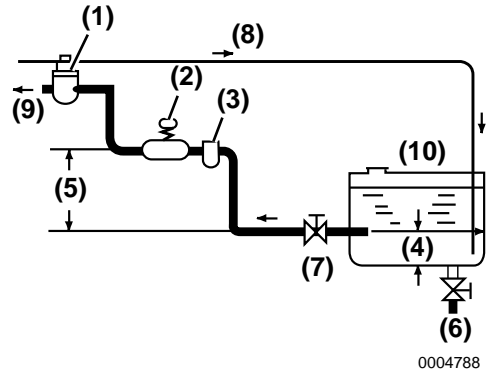

Figure 2
The fuel outlet should be positioned 20 to 30 mm (0.75 to 1.125 in.) above the bottom of the tank (**Figure 2, (4)**) so that only clean fuel is distributed to the engine.
Install the fuel line from the fuel tank to the fuel injection pump as shown in **Figure 2**. The recommended fuel / water separator (**Figure 2, (3)**) (optional) is installed at the center section of that line.